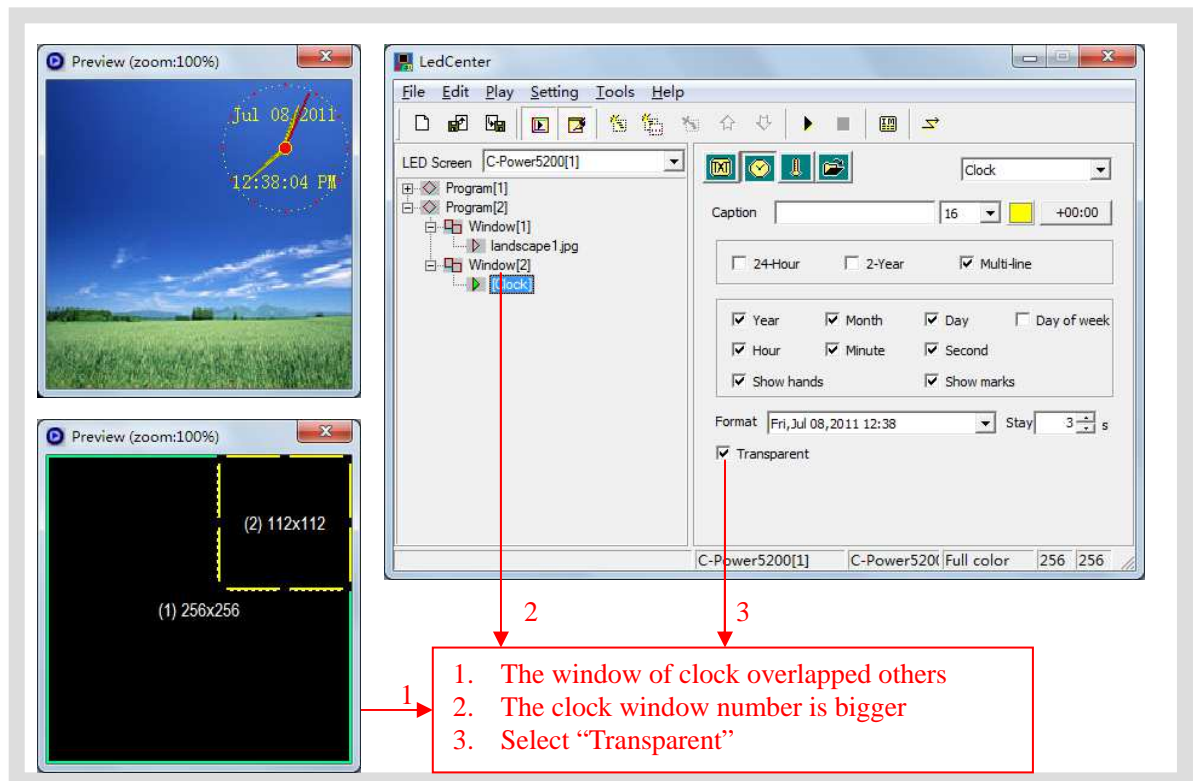

Figure26 Setting of transparent display of clock
- Clock transparent display: as shown in Figure26. User needs to set 3 places to achieve the transparent display effect.
- D. Transparent: Same as clock program, the counter can set transparent and overlap on other window. Refer to Figure26.